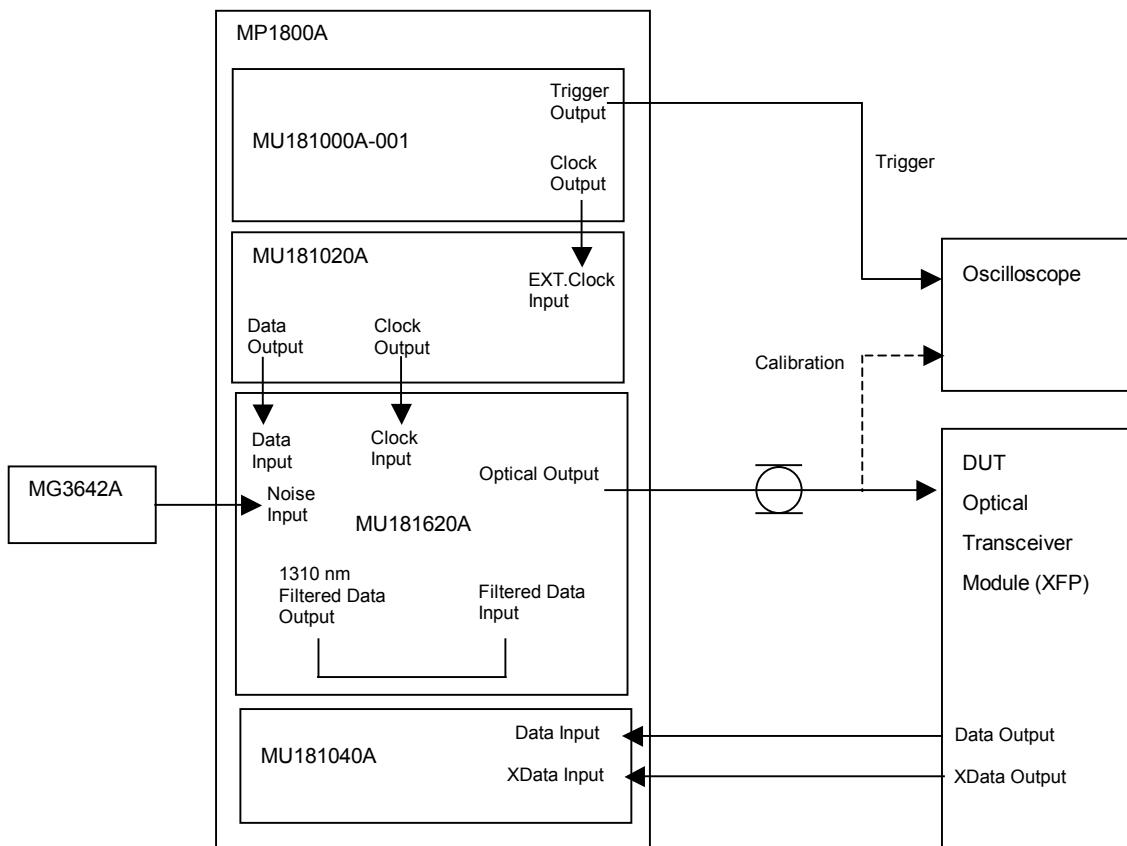

Fig. 5.1.1-1 Connection diagram
3. Turn on the MP1800A, and then connect the instruments, referring to Fig. 5.1.1-1.
6. Connect the Optical Input connector of the DUT and the Optical Output connector of the MU181640A, and then connect the O/E output connectors (Data Output and XData Output) of the DUT and the Data Input and XData Input connectors of the MU181040A, respectively (see Fig. 5.1.1-1).